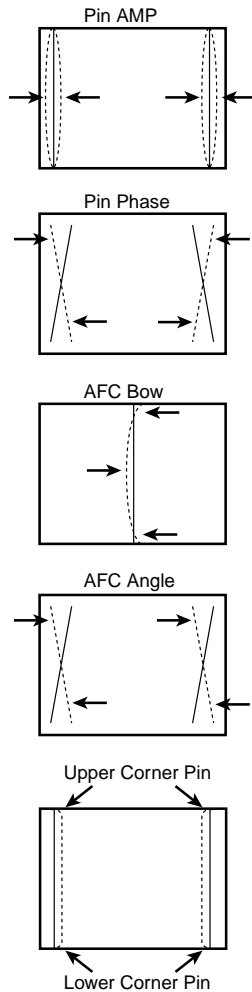

Figure 8. Pincushion Adjustments
5. Select the items below with ▲ or ▼ key according to the symptoms of Figure 8.